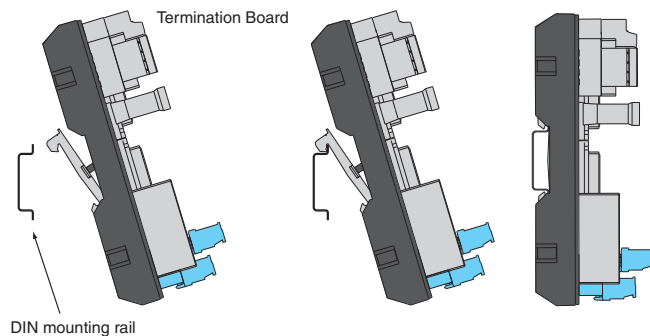

Figure 7 Proper mounting of the H-System Termination Board
- Place the Termination Board onto the DIN rail (Figure 7).